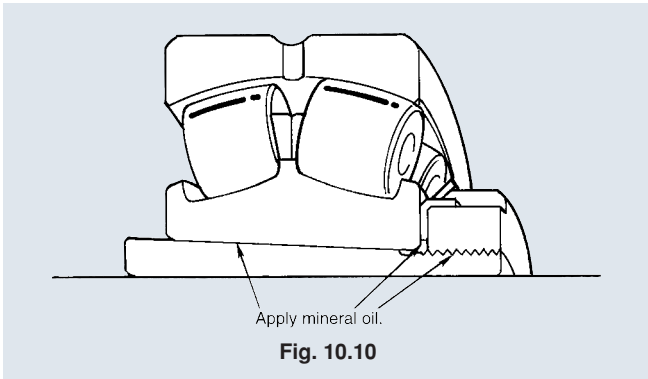

Fig. 10.10
- (1) Thinly apply highly viscous mineral oil to the taper, threading and the chamfered face of the nut (see **Fig. 10.10**) before press-fitting. In particular, apply molybdenum bisulfide paste to these areas on a large bearing. This prevents scuffing, and allows easy bearing removal. Before the installation work, remove oil from the shaft and the bore face of sleeve with a clean factory cloth.